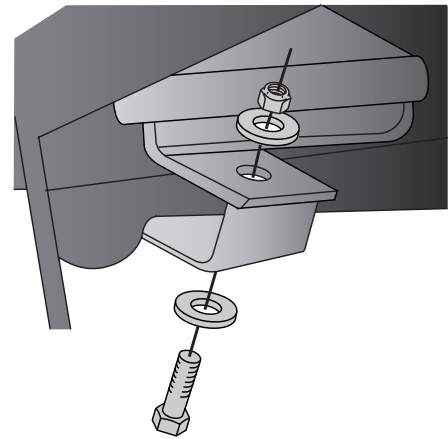

Fig. 14
- Secure the lower bracket to the jounce bumper strike pad using the retaining bracket (E), 3/8"x2" hex head bolt (J), flat washers (M) and 3/8" lock nut (L) (Fig. 14).